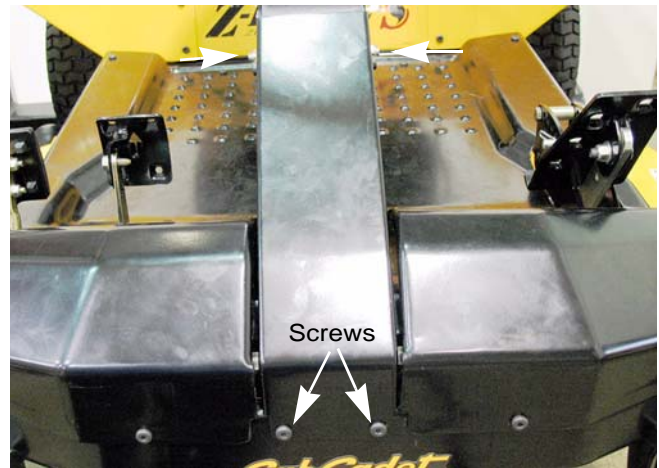

Figure 6.88
2. Remove the four screws that hold the steering column cover in place using a T-30 torx driver. See Figure 6.88.